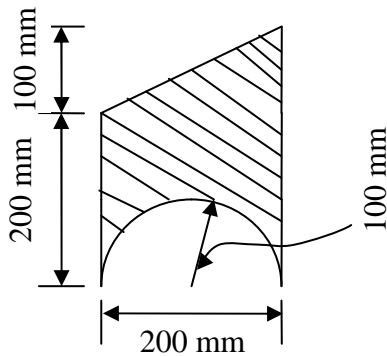

Fig.5 Q-4 (c)
- (c)** Find center of gravity of a lamina shown in the fig.5. **06**